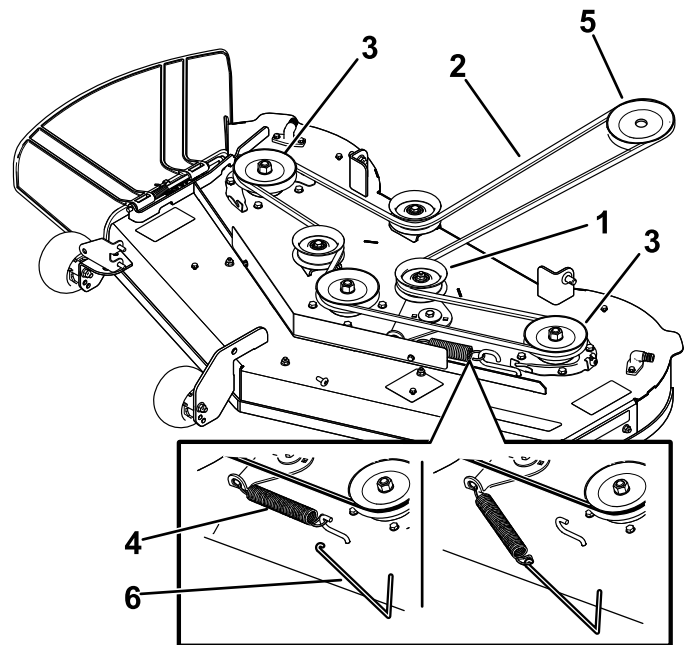

**Figure 57**
- 7. Using a spring-removal tool (Toro Part No. 92-5771), remove the idler spring from the deck hook to remove tension on the idler pulley, and roll the belt off the pulleys (Figure 57 or Figure 58).
- 8. Route the new belt around the engine pulley and mower pulleys (Figure 57 or Figure 58).
- 9. Using a spring-removal tool (Toro Part No. 92-5771), install the idler spring over the deck hook and place tension on the idler pulley and the mower belt (Figure 57 or Figure 58).